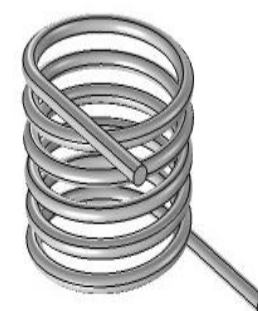

Fig 1.2
- > In fig 1.2 is a 5.5 turns of copper coil with radius of 20mm.